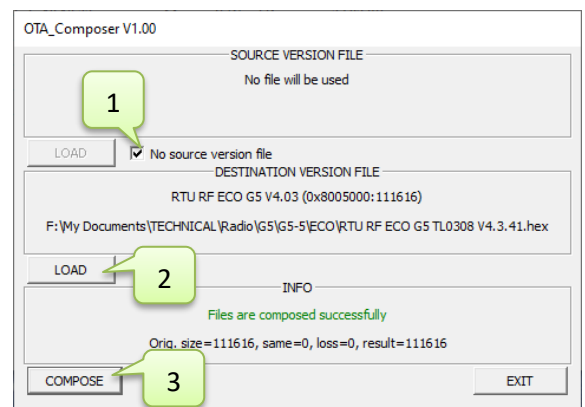

Figure 12 - Composer with no source version
- a. The first option is meant to be used when we are not sure about the version currently existing in the RTUs, or when not all RTUs have the same version. In these cases we have no alternative but to send the whole firmware file to replace the existing one. In this case we shall have to check the checkbox saying “NO SOURCE VERSION” (Figure 12 -1) and load only a DESTINATION VERSION (Figure 12 -2) to be processed by the COMPOSER. Push the COMPOSE (Figure 12 -3) button to prepare the file to be used by the LAUNCHER.